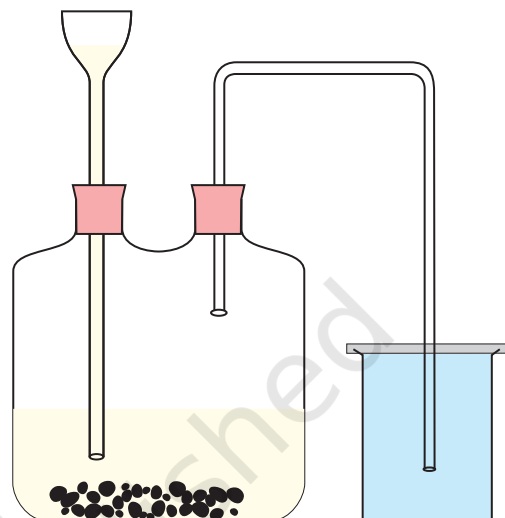

Fig. 15.1 : Preparation of CO_2 gas in Woulfe's bottle
1. Take about 10 g of small pieces of marble chips in a woulfe's bottle and set up the apparatus as shown in Fig. 15.1.